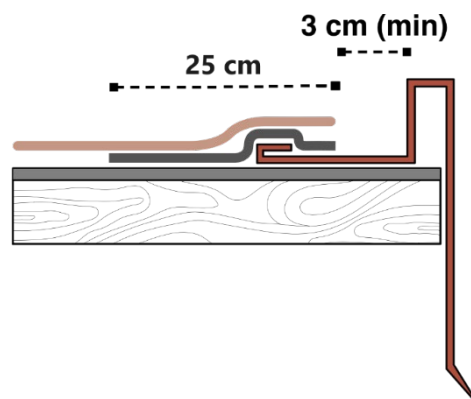

**Fig. 14** - Shingles installation at valley
- As for the roof valleys, prepare a band of bituminous membrane about 100cm wide, applied by torch in advance, to ensure its waterproofing - Fig. 14. Install a copper metal valley flashing above the membrane, with a shape similar to Fig. 13, along the centre of the valley.
- Next, install the starting row and the shingles on the first pitch, up to the valley line, cutting them 3 cm and parallel to the valley line. Secure the shingles and the starting row with stainless steel nails, up to approximately 40 cm from the valley line, and with Bitustick, applied in two parallel rows, at distances no greater than 40 cm from the valley line, above the metal valley flashing - Fig. 14. It is also advisable to cut the upper edge of the shingle transversely at the valley, to direct the descending water along the valley centerline - Fig. 14.
- Repeat the same procedure for the second pitch. In the end, a channel should be created between the shingles, along the metal valley, where the water will flow preferentially - Fig. 14.
- As for the roof valleys, prepare a band of bituminous membrane about 100cm wide, applied by torch in advance, to ensure its waterproofing. Install a copper metal valley flashing above the membrane, with a shape like Fig. 14, along the centre of the valley.